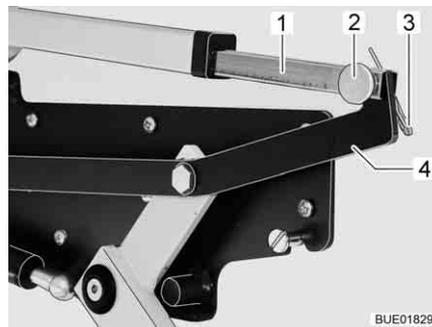

Fig. 140 Drive for the pull-down bed
- Release the connection between the push rod (Fig. 140,1) and lever (Fig. 140,4). To do this, pull out the splint (Fig. 140,3) and pin (Fig. 140,2).